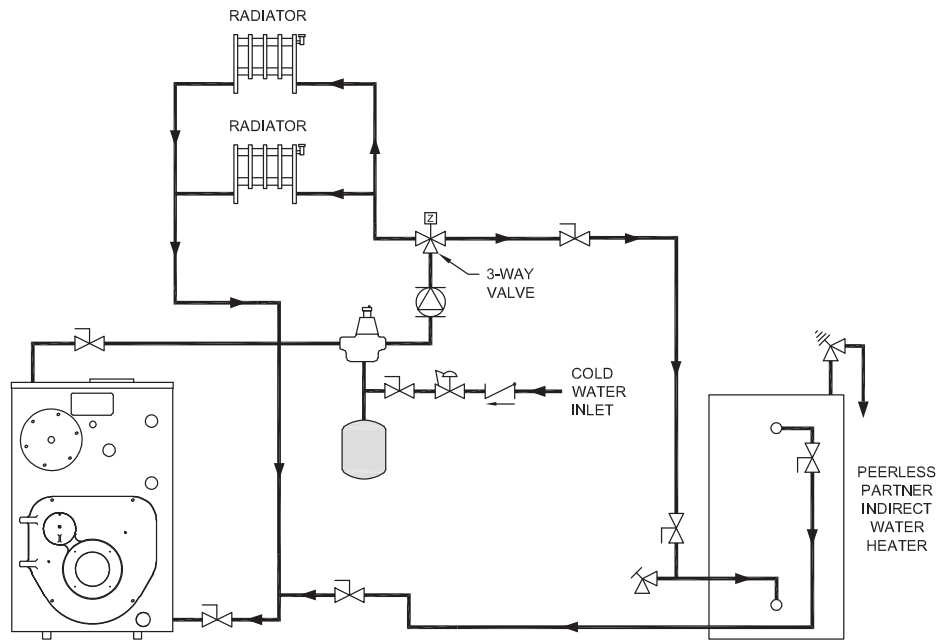

Figure 3.5: Peerless® Partner® Boiler Piping with 3-Way Valve (Domestic Priority)
2. See Figures 3.5 through 3.9 for boiler water piping